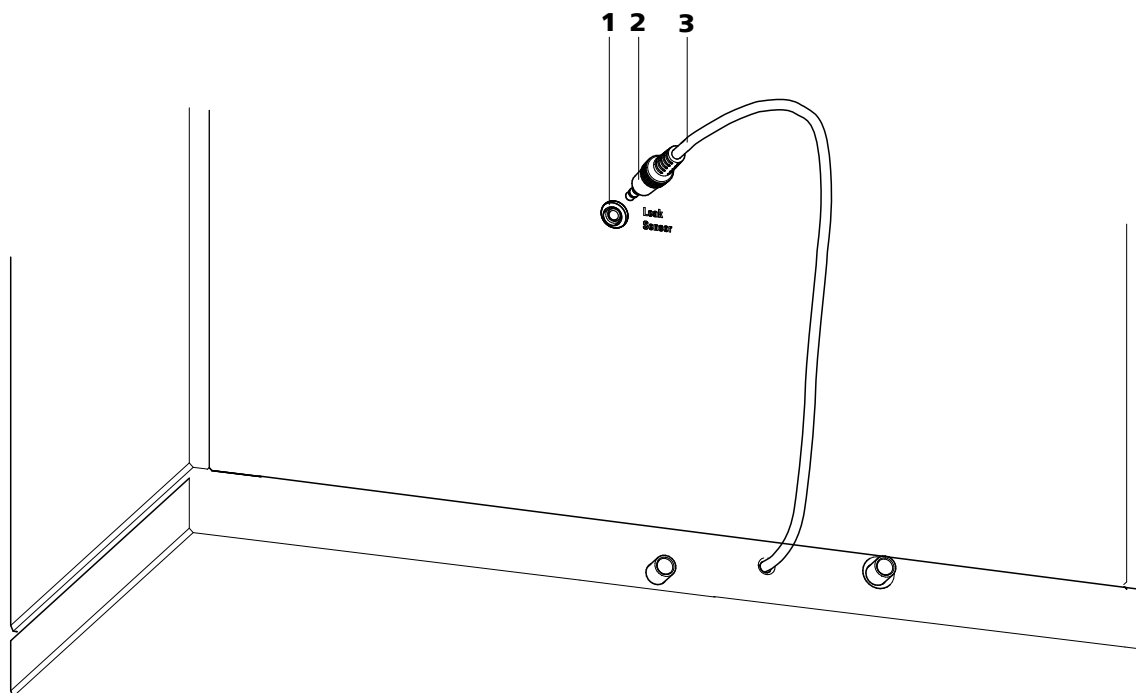

Figure 10 Connection for the leak sensor on the rear of the instrument
- 1 Plug the leak sensor connector plug (10-2) into the leak sensor connector socket (10-1) on the rear of the instrument (see Figure 10, page 31).